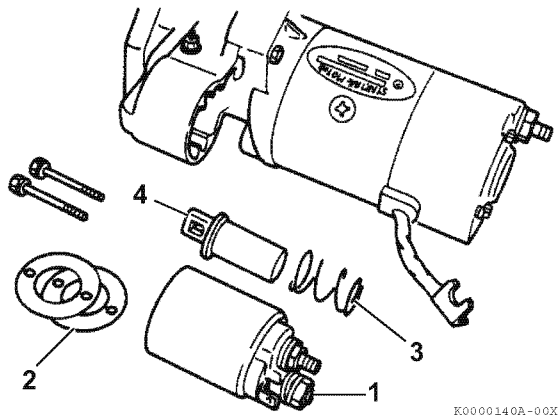

Figure 10-33
14. Install the return spring (if equipped) (Figure 10-33, (3)) on the solenoid plunger (Figure 10-33, (4)). Install the solenoid switch coil (Figure 10-33, (1)) and dust covers (Figure 10-33, (2)). Secure with nuts or bolts.